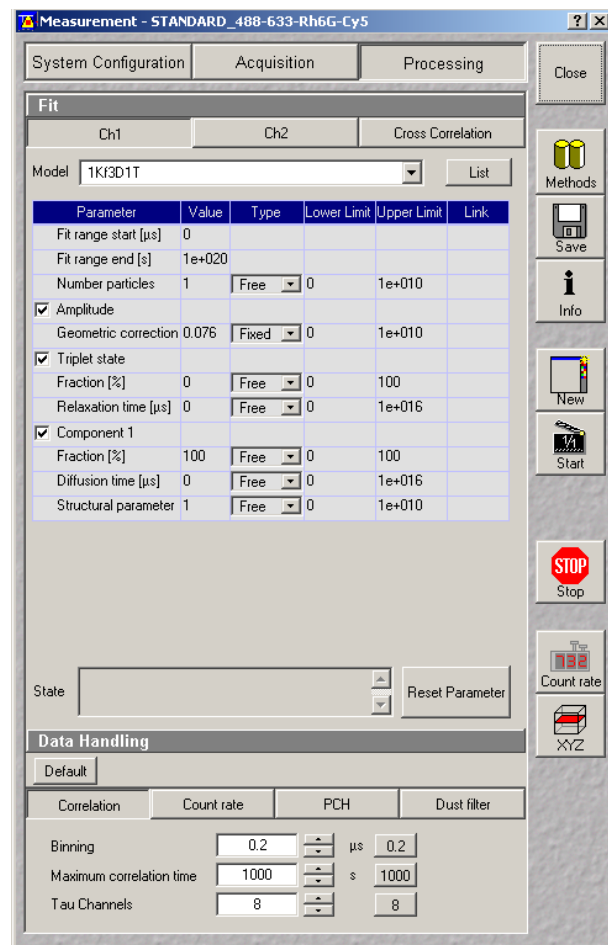

Fig. 4-64 Processing window
- The **Processing** subwindow appears on the screen (see Fig. 4-64).